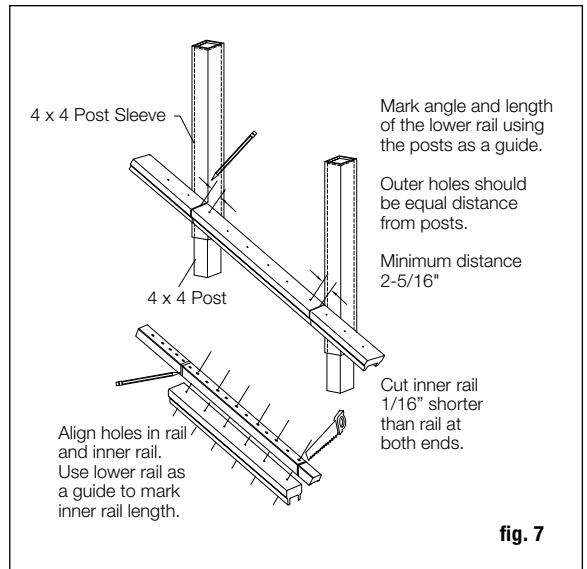

fig. 7
Step 5 *Note: To ensure the balusters are installed plumb, the holes between the rail sections must all be aligned. Tip: Use a gauge pin or a 3/32" drill bit to ensure the holes are aligned.* Using the trimmed lower rail as a guide, set the upper inner rail on top of the trimmed lower rail and align the pre-drilled holes. Mark the cut lines on the inner rail with a pencil. *Note: To allow for the thickness of the brackets, the inner rails should be 1/8" shorter than the lower rails with all holes equally spaced.* Remove an additional 1/16" from the pencil mark on each end and trim the inner rail to length. Repeat for the second inner rail (fig. 7).